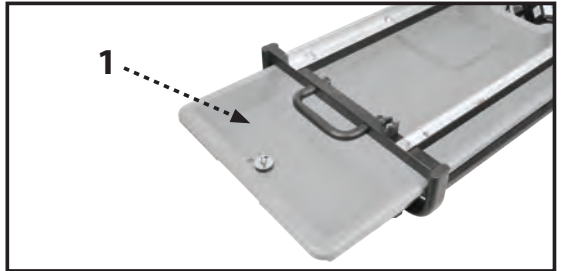

FIGURE 5
- (See Figure 5) Insert water tray (1) by sliding it into the frame as shown. The lip of the tray should rest on top of the left and right rails of the main frame.